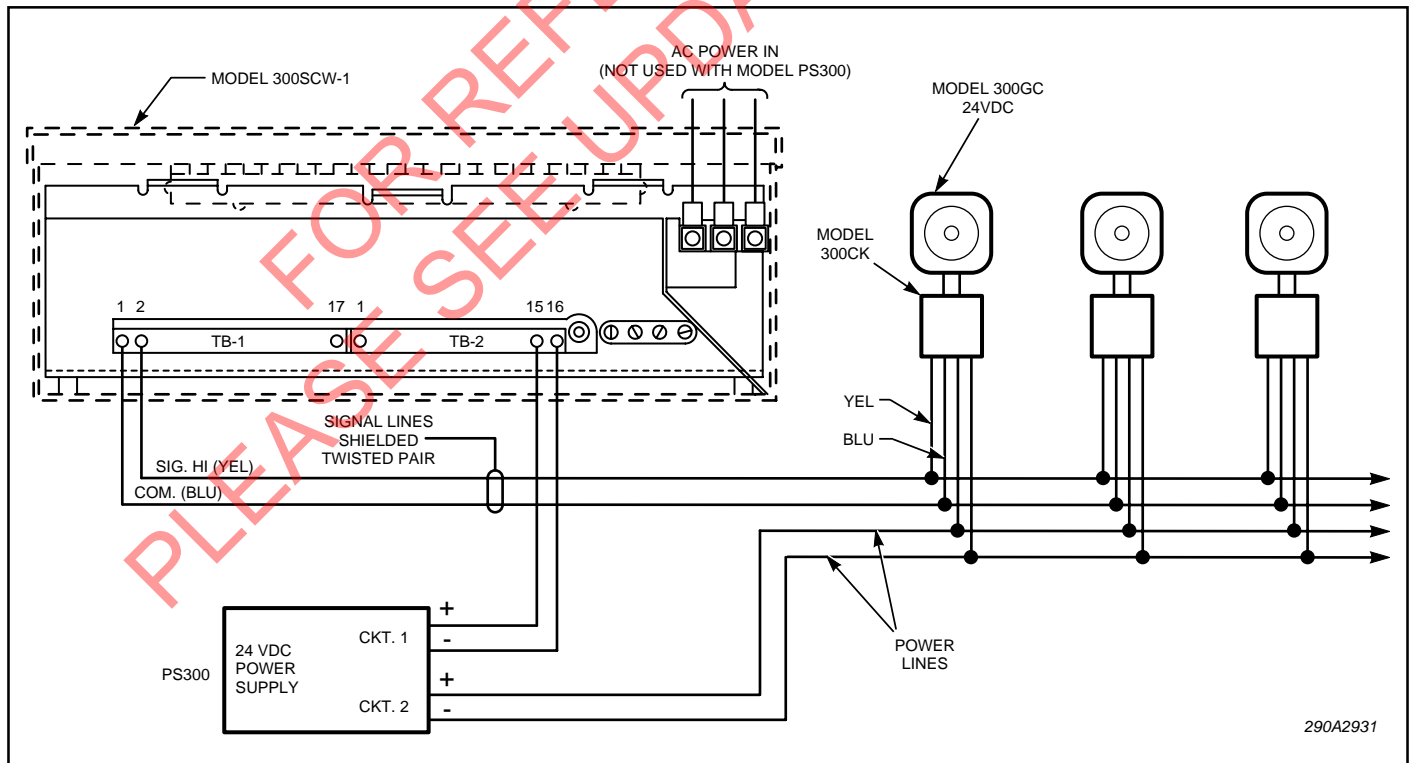

Figure 3-6. Typical Central Power System.
B. Central Power (See figure 3-6).